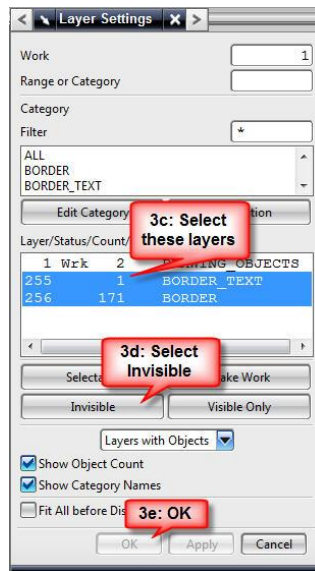

Figure 11
- b. **Format > Layer Settings** (see Figure 11)